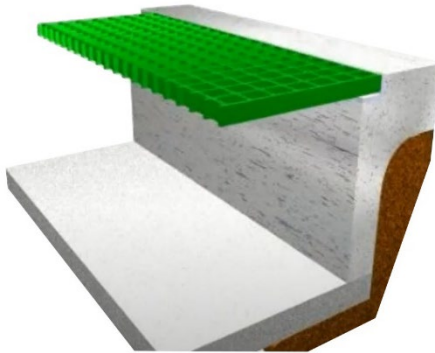

Figure 7
Step 6: Position grates to rest on the rails. *Figure 7*